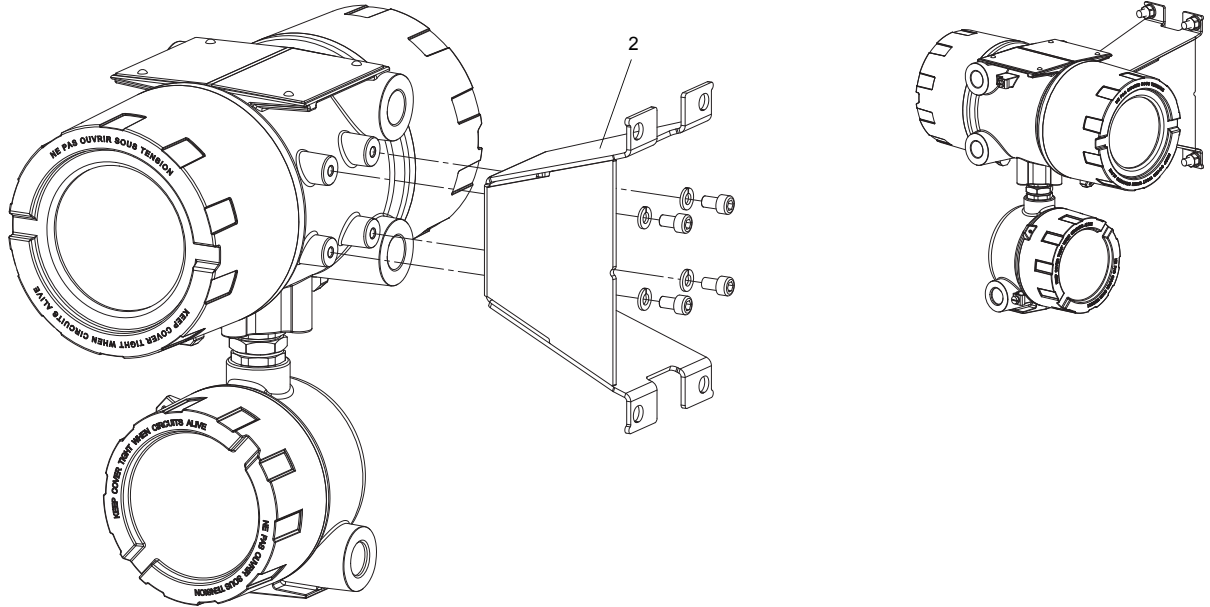

Fig. 7.2: Wall installation
- Fix the housing to the instrument mounting plate (2) (see Fig. 7.2).